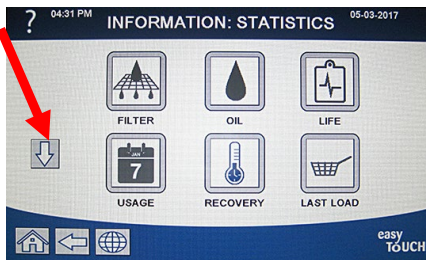

Figure 23
18. Press the down arrow button (see Figure 23).